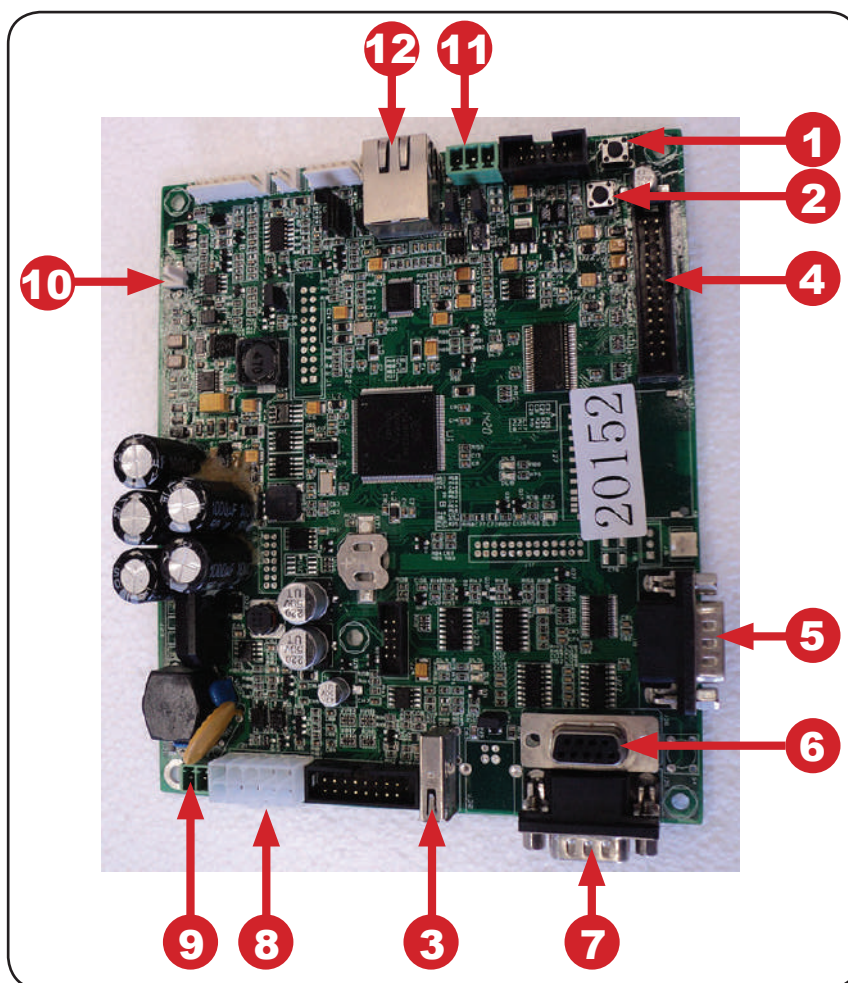

Figure 8.1 - Main Board (controller)
Controlling the operation of vending machine assemblies and equipment is executed by the control board (hereinafter – controller), which is located in the control section (see figure 8.1).
The drive is connected to the USB connector, located on the controller board (fig. 8.1). The connection should be carried out in the sales mode. When connecting the drive the touch screen will display the relevant messages about the drive operation.
When the control compartment is pulled out, from above the control compartment the three service buttons + USB connector become available (fig. 8.1 pos. 2).